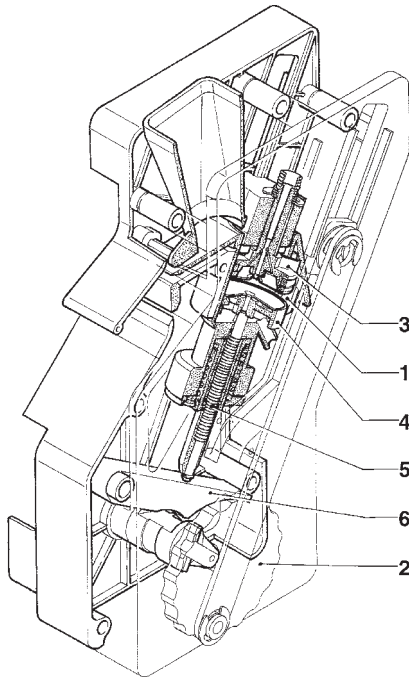

Fig .18
The coffee falls into the vertical brewing chamber (1) (see Fig. 18).
The ratiomotor handle engaged with the disk (2) located outside of the assembly rotates by 180°, making the brew chamber swing and lowering the upper piston (3) (see Figure 18).